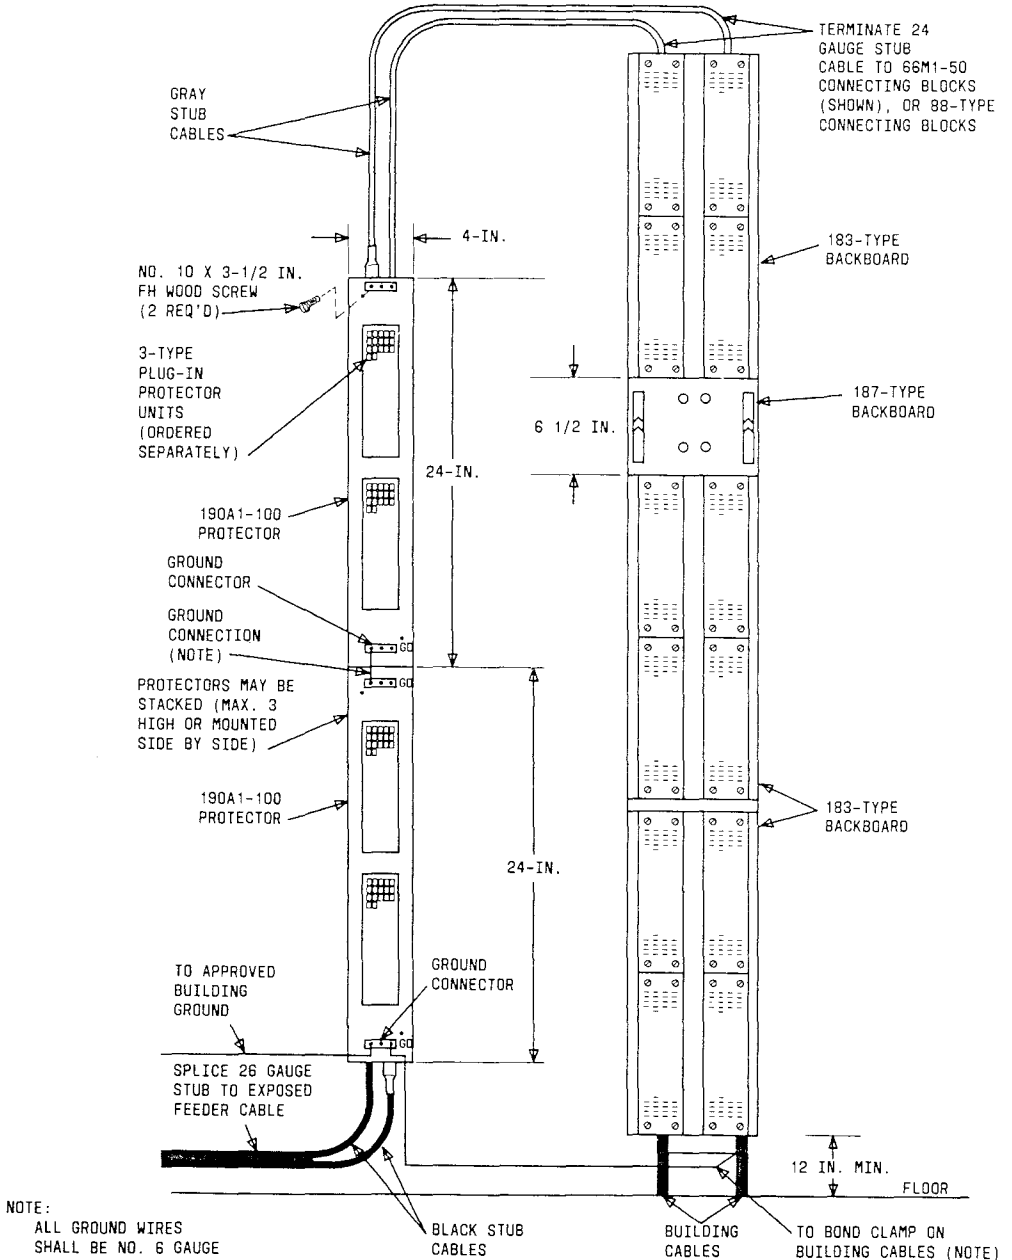

Fig. 4—Wall Mounted Protectors—200-Pair Exposed Entrance Cable—Typical Installation
3.02 Typical arrangements using the 190-type protectors are illustrated in Fig. 4 through 7. Multiple protectors may be mounted side by side or stacked. Standoffs incorporated into the base provide "pass-through" clearance for a maximum of two 100-pair cables when stacked. No separation is required between protectors when mounted side by side or stacked.